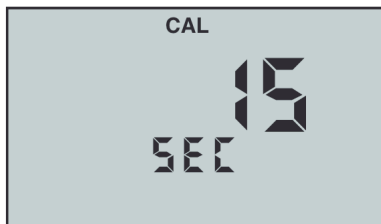

Figure 25
4. Press  to initiate. “**CAL**” will be displayed along with “**15 SEC**” or current Auto oFF value (see Figure 25).